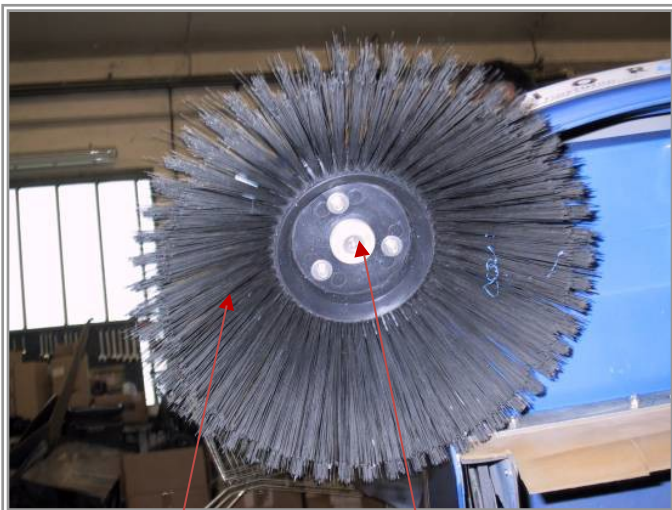

Figure 4.12
- Position the machine as showed in figure 4.12
- Unscrew the center screw (figure. 4.12)
- Remove the brush and replace it with a new one (figure 4.12)